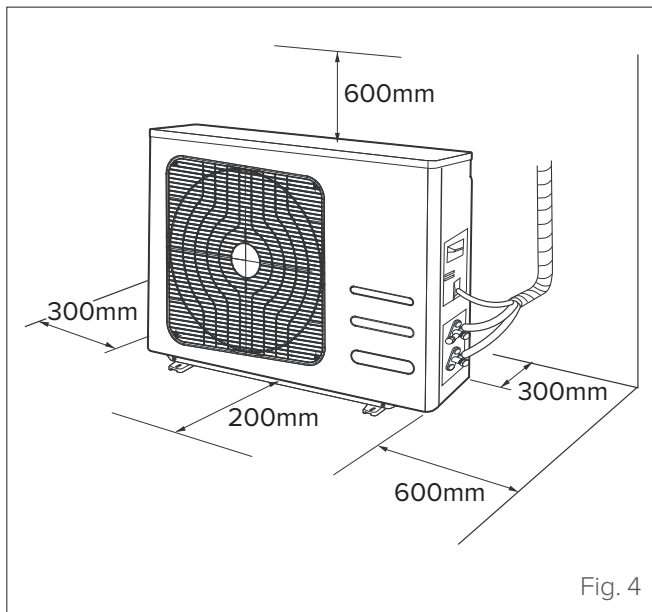

Fig. 4
- the space available for installation must fulfil the requirements indicated (see "Fig. 4")